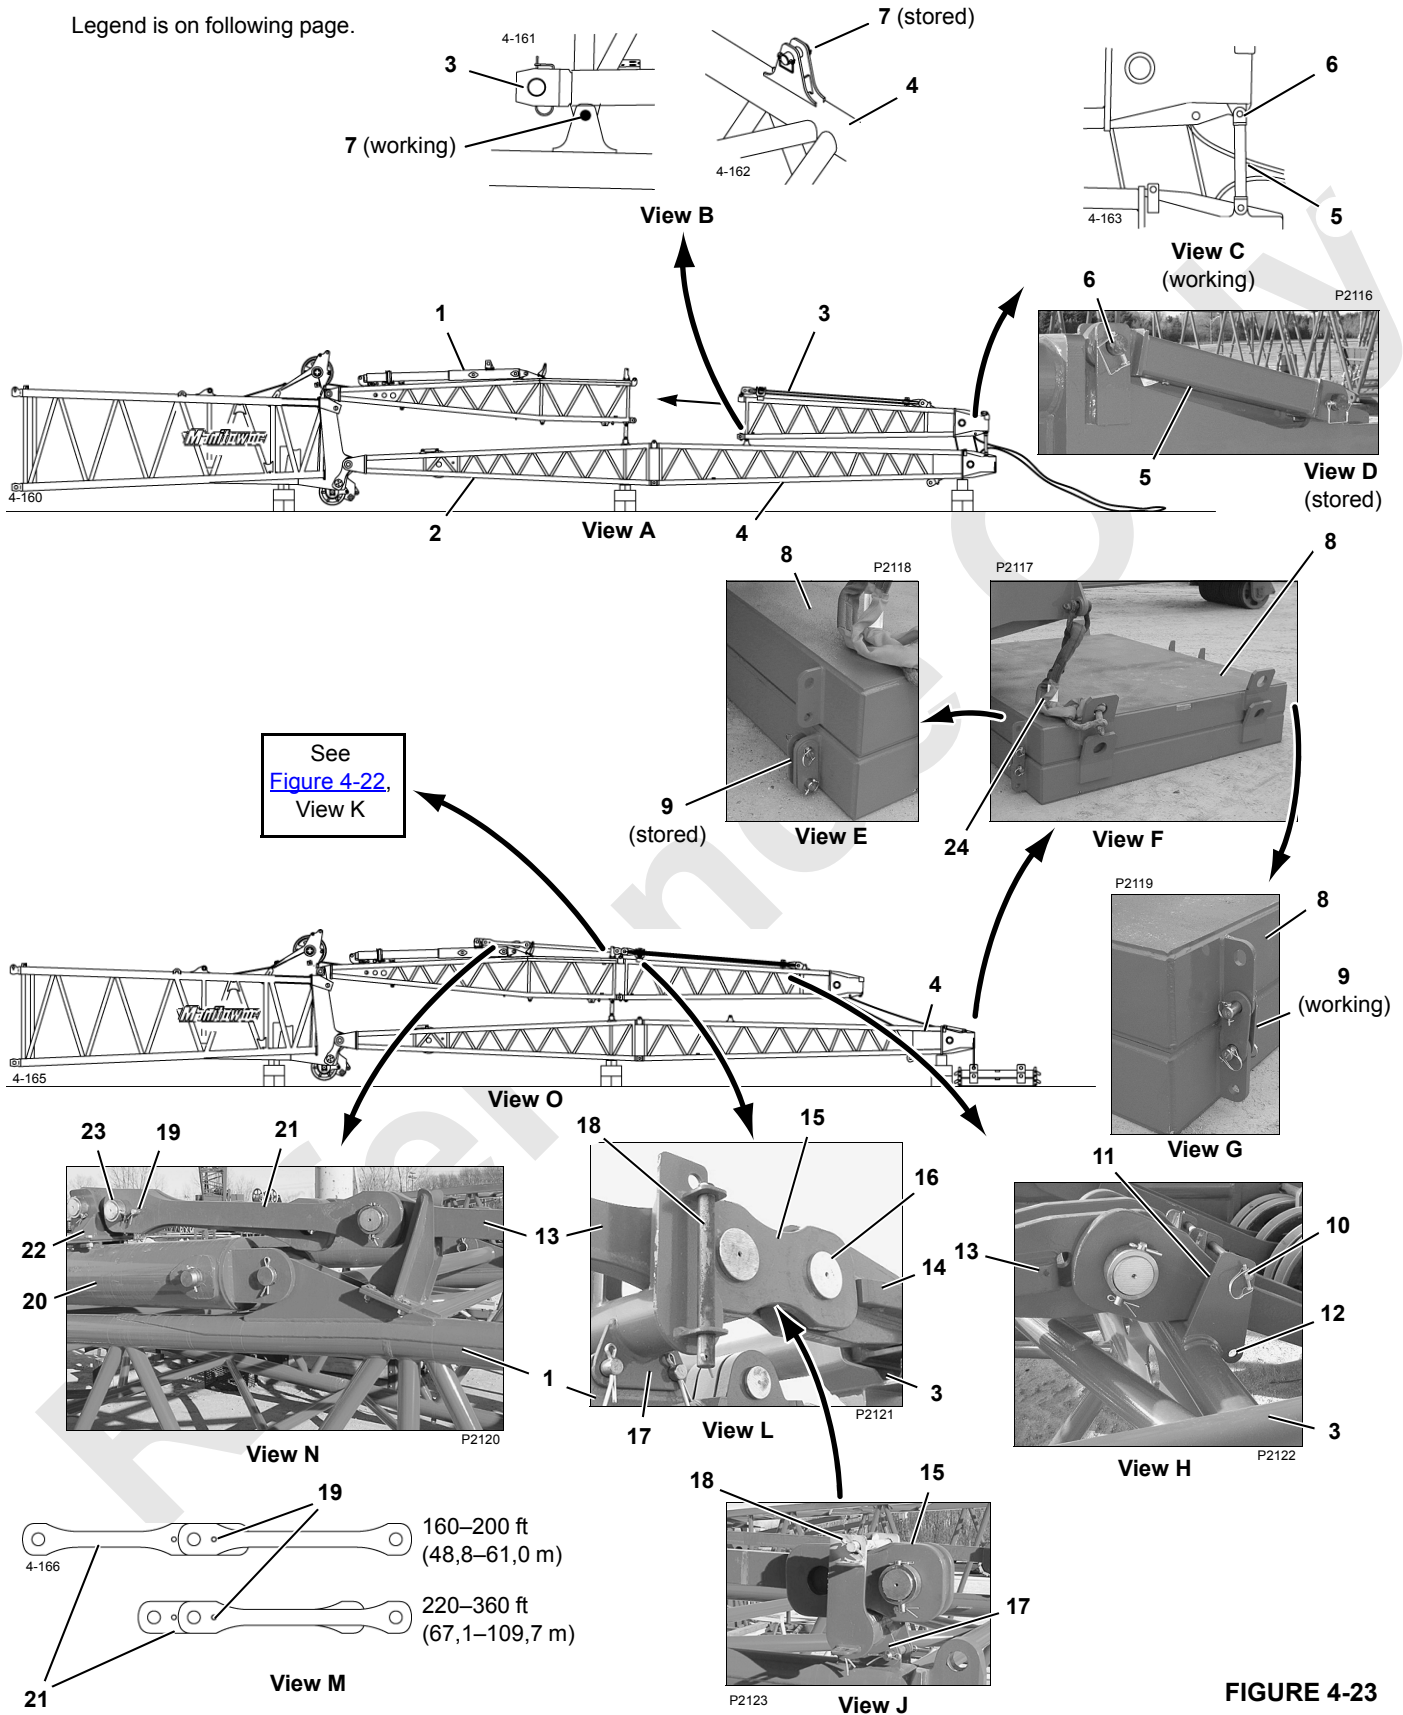

FIGURE 4-23
See Figure 4-23 for the following procedure.
Component Identification for Figure 4-23
1. Make sure all strap storage pins (4, View B and 5, View C) on main strut (8) are stored.
3. Verify that top of jib strut is properly anchored to counterweight (Figure 4-23, Views E, F, and G).
- Strut stops (1) are fully retracted and retaining pins (2, View A) are installed.